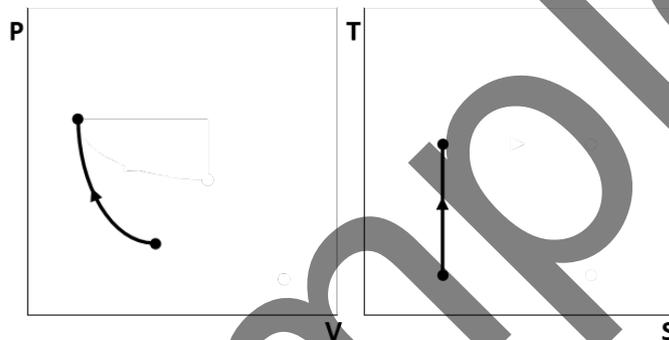

Fig.4.1: Stage 1-2 of the Carnot cycle
**1-2:** Fig.4.1 shows the first stage of the Carnot cycle, and its affect on the T-S and P-V diagram. As an isentropic system  $\Delta Q = \Delta S = 0$ .